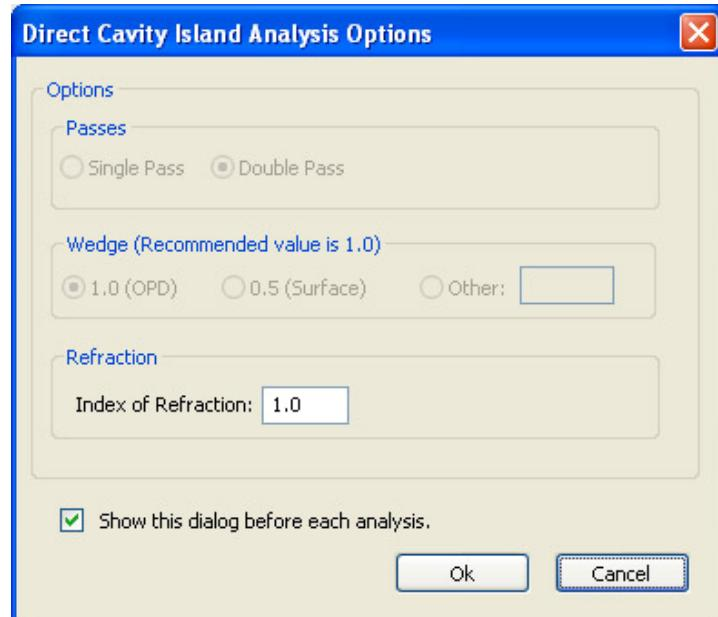

Figure 99: Direct Cavity Island Analysis Options Dialog Box.
1. Choose **Analysis > Direct Cavity > Options** to open the Direct Cavity Island Analysis Options dialog box (*Figure 99*). Enter the **Index of Refraction** for the sample part and click **OK**.